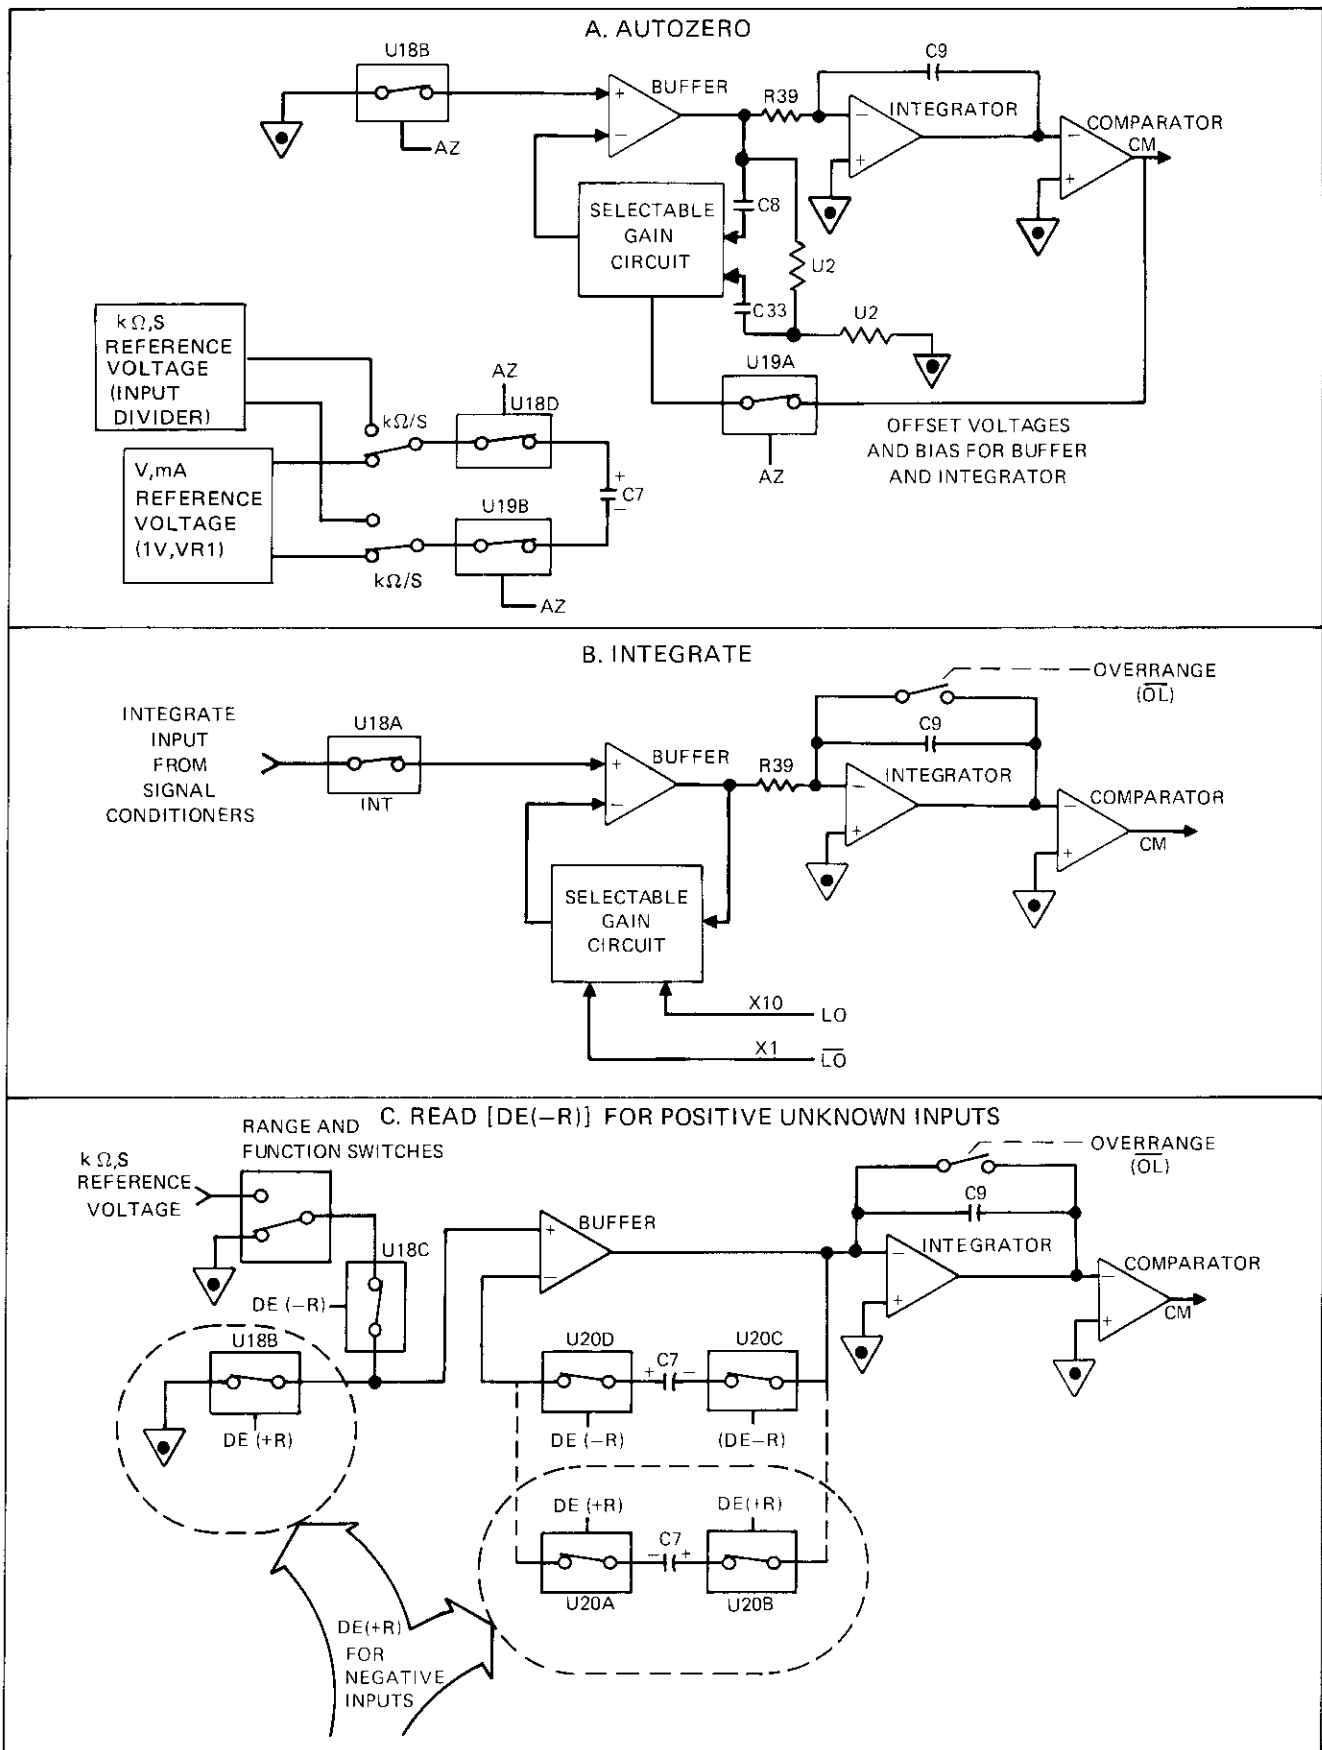
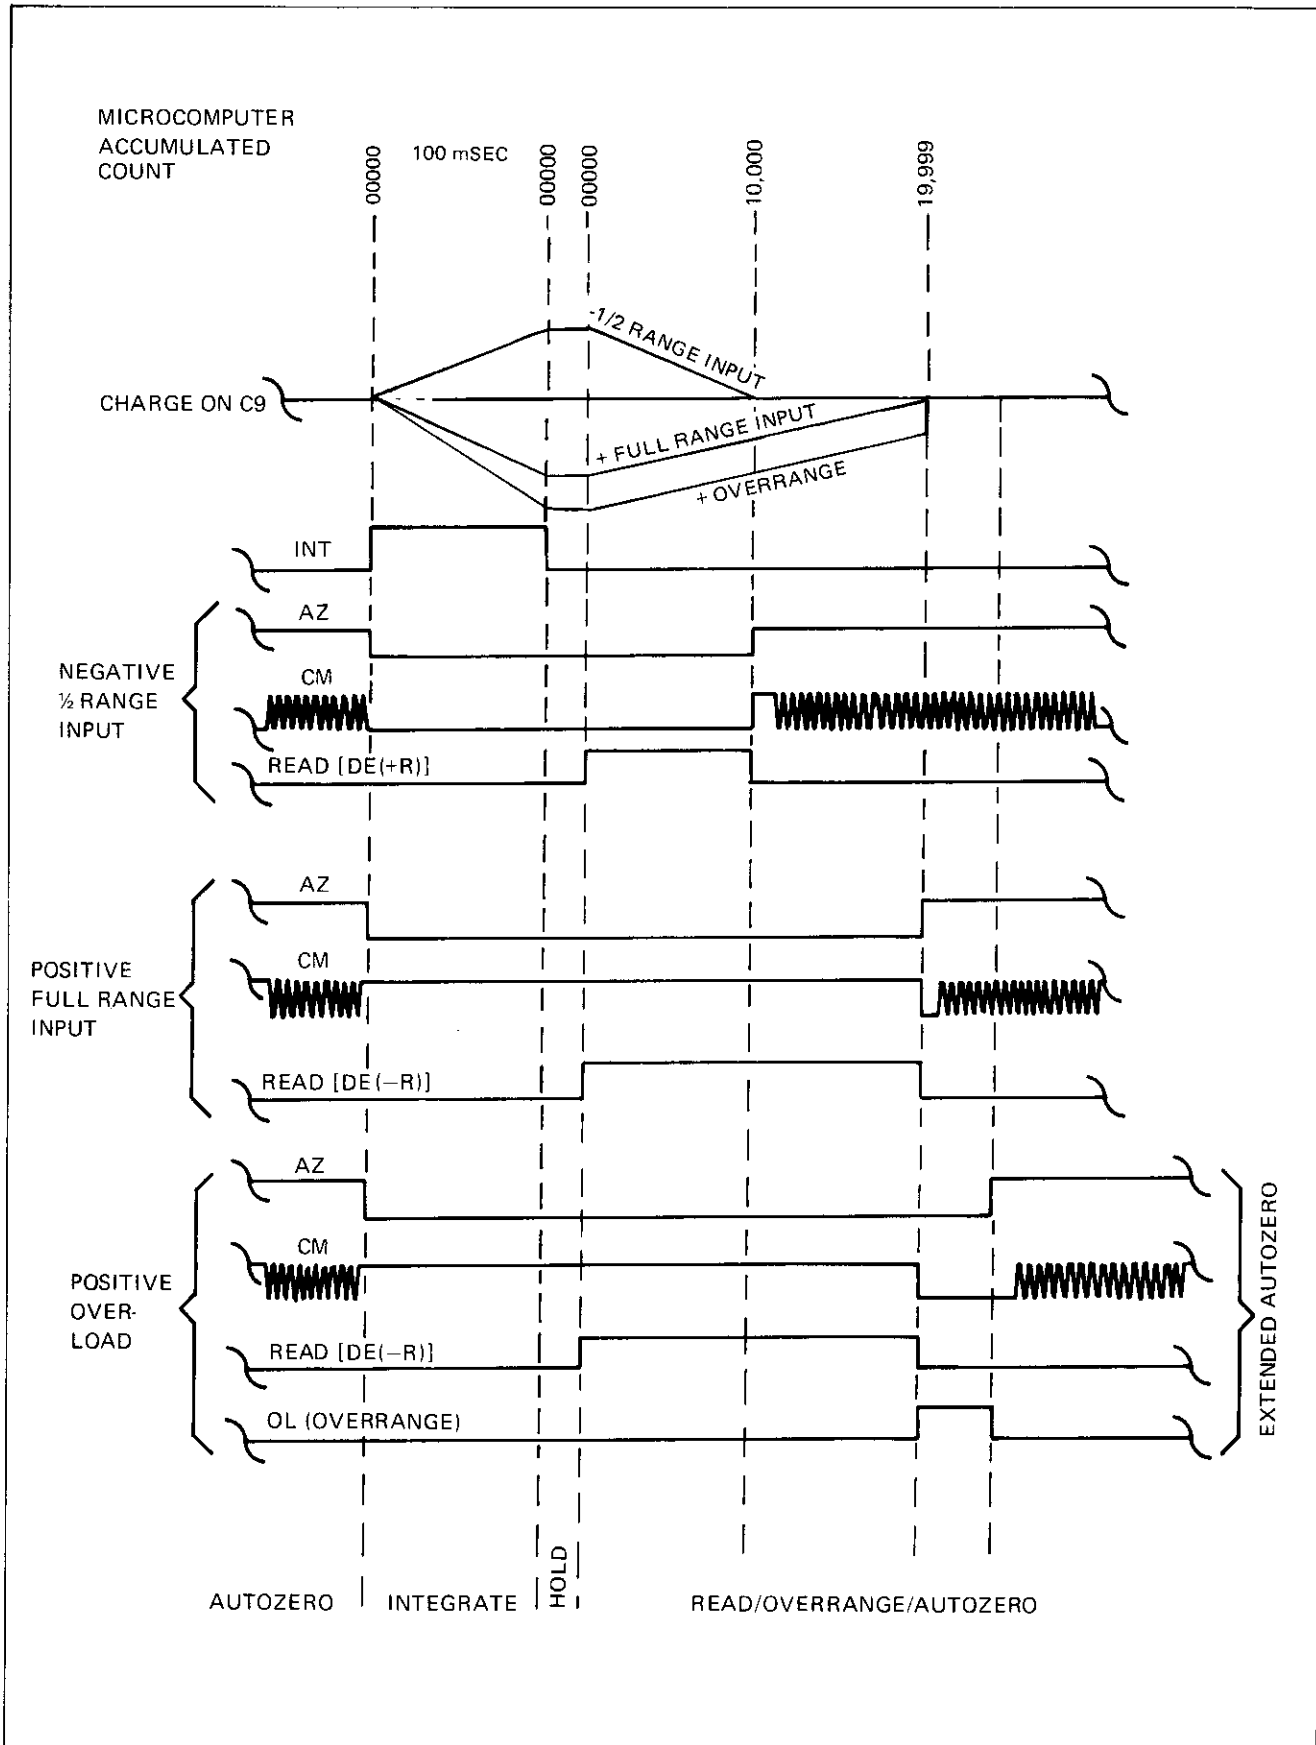

Figure 3-2. A/D Converter
Figure 3-3. A/D Converter Waveforms
3-9. The microcomputer controls the a/d converter via CMOS switches. Figure 3-2 shows the simplified circuits formed during the major periods of a/d conversion cycles. Figure 3-3 is a timing diagram that shows the a/d converter cycle resulting from three different input signals. Assume in reading the following paragraph that the DC V function and the 2 volt range are selected and the DMM is nearing the end of the AUTOZERO (AZ) period in its conversion cycle.
3-10. As Part A in Figure 3-2 shows, the CMOS switches U18B and U19A are closed providing voltage levels that allow C8 and C33 to store the offset voltages of the buffer, integrator, and comparator. CMOS switches U18D and U19B connect the flying capacitor, C7, to a reference voltage. Since the V function is selected, C7 is charged by the a/d converter reference voltage source. At the end of AZ, C7 is fully charged, C8 and C33 are charged up to the offset voltages, and the comparator output (CM) is near a threshold level.
3-11. Assume that an input of -1.0000V dc is present at the DMM input (first set of waveforms in Figure 3-3). The microcomputer starts the INTEGRATE (INT) command at the same time that it ends the AZ command. The a/d converter circuit is switched to the configuration shown in Figure 3-2, Part B. CMOS switch U18A connects the output of the signal conditioners to the input terminal of the buffer. For a 2V range, the microcomputer will select the X1 gain in the buffer and the input from the signal conditioner is applied to the buffer and integrator in series. The integrator begins to charge C9. The instant that the charge on C9 shifts from its initial level, the comparator will toggle — its COMPARE (CM) output goes to a steady level. Since the unknown input to the
3-13. Since CM is negative, the microcomputer initiates the READ period with the DE (+R) (de-integrate plus reference) command (Part C of Figure 3-2), CMOS switch U18B connects the buffer input to COMMON, and CMOS switches U20A and U20B connect C7 in the buffer feedback loop so that the integrator input is a known level (1V) of the opposite polarity from the input signal. The integrate capacitor C9, begins to discharge and the microcomputer starts to count from 00000. The count accumulates until C9 discharges to its initial level. The instant C9 reaches its initial level, the comparator will toggle CM positive, stopping the count in the microcomputer. The count in this case will be 10,000. This count (with the appropriate decimal point) is the same numerically as the -1.0000V dc input to the DMM.
3-15. The bottom set of waveforms in Figure 3-3 show the timing that results from a positive overrange input to the DMM. If the count in the microcomputer reaches 20,000 before CM toggles, the microcomputer will detect this as an overrange condition and issue the \overline{OL} command for 5 msec. \overline{OL} will short C9, dumping the remaining charge. The following AZ period will be doubled to 200 msec. The polarity of the overrange input signal is retained and displayed.